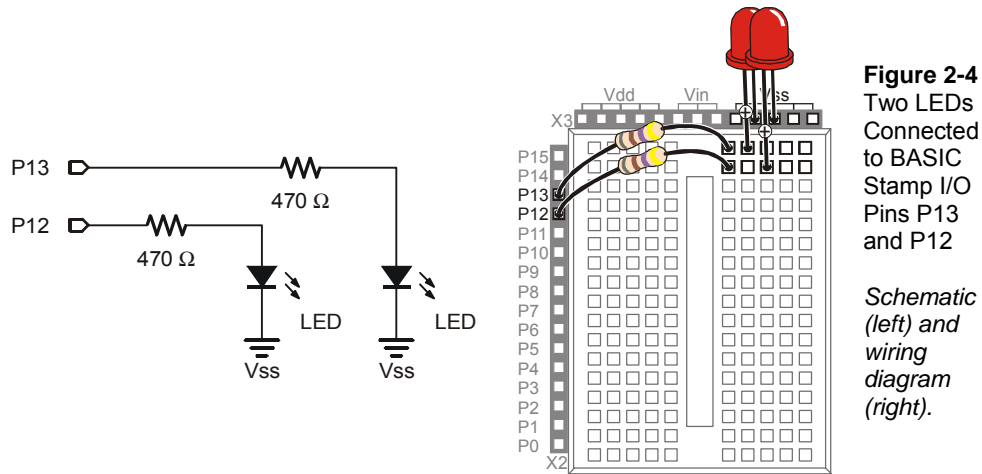

Figure 2-4
If you completed the *What's a Microcontroller?* text, you are no doubt very familiar with the circuit shown in Figure 2-4. The left side of this figure shows the circuit schematic, and the right side shows a wiring diagram example of the circuit built on your board's prototyping area.
- √ Build the circuit shown in Figure 2-4.